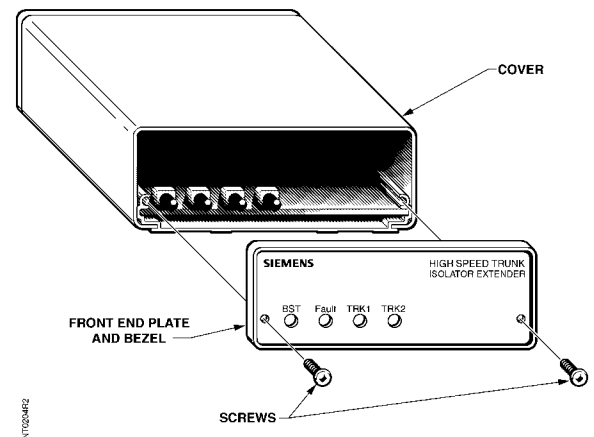

Figure 1. HSTIE with Front End Plate and Bezel Removed.
1. Remove the screws holding the front end plate and bezel (Figure 1).
2. Remove the end plate, bezel, and cover (Figure 1).